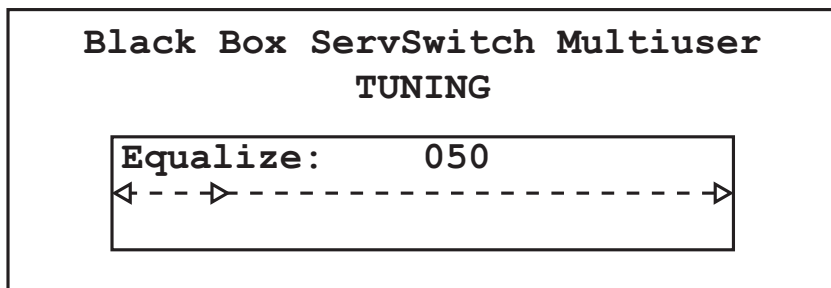

Figure 18-4. Image Tuning label.
2. Press F5. The screen image of the selected computer appears, together with the Image Tuning label, see Figure 18-4.